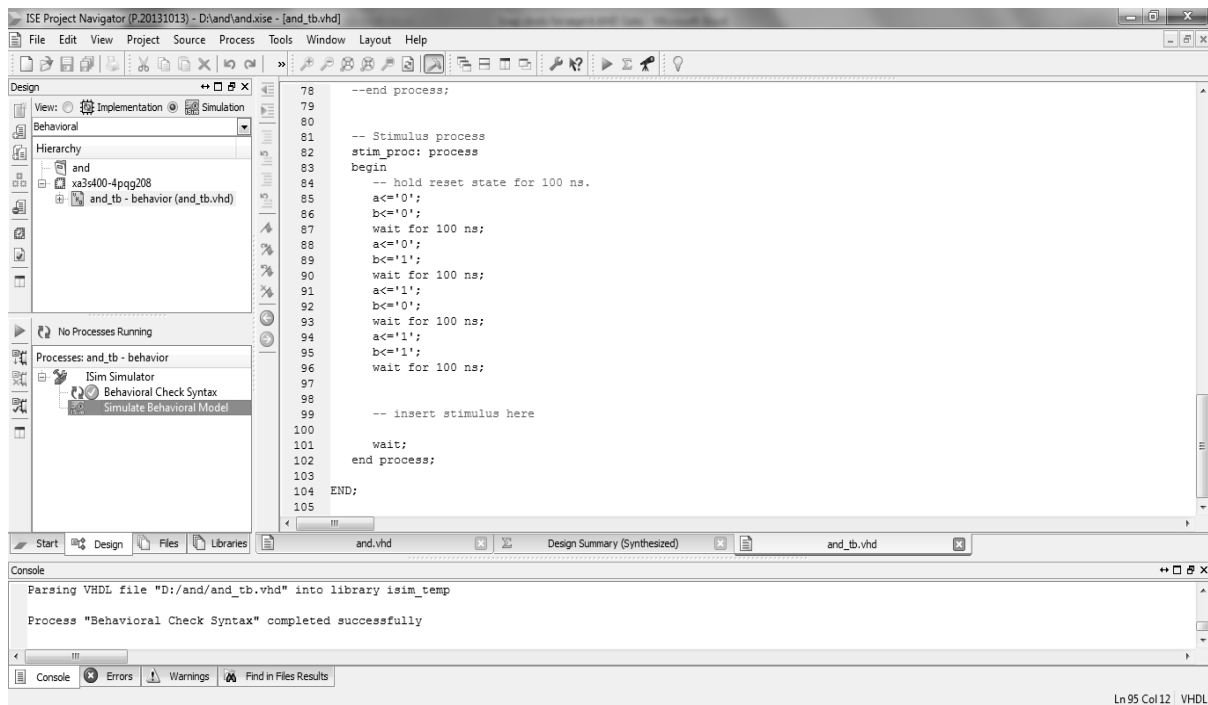

Fig 4.16: Simulation Check window
8. Double click on “Simulate Behavioral Model” in the “Process Pane”, which will open the ISim software with your test bench loaded. (refer fig. 4.16)